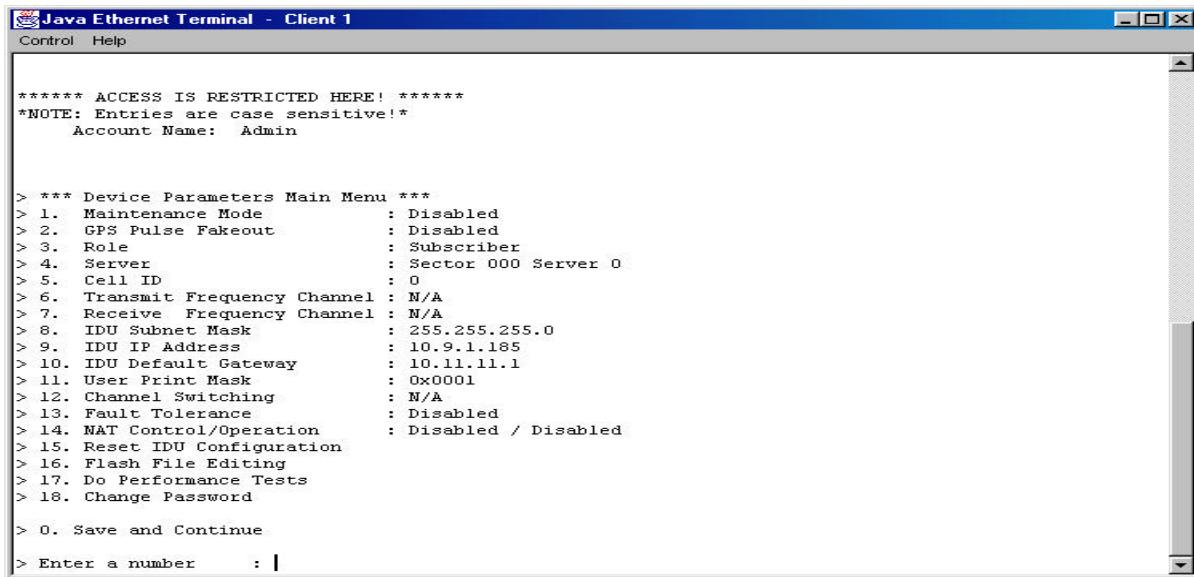

Figure 3-4 Device Parameter Menu
- Figure 3-4 shows the Device Parameters Menu.